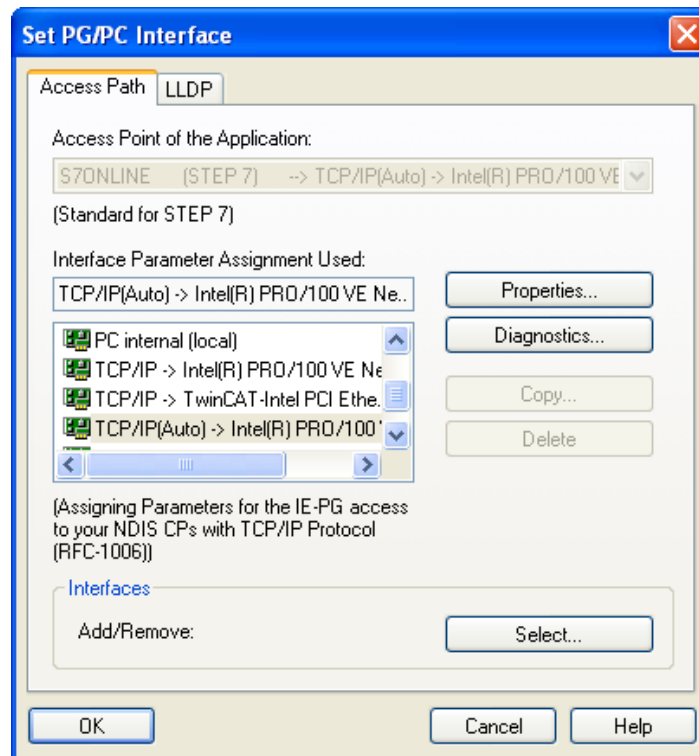
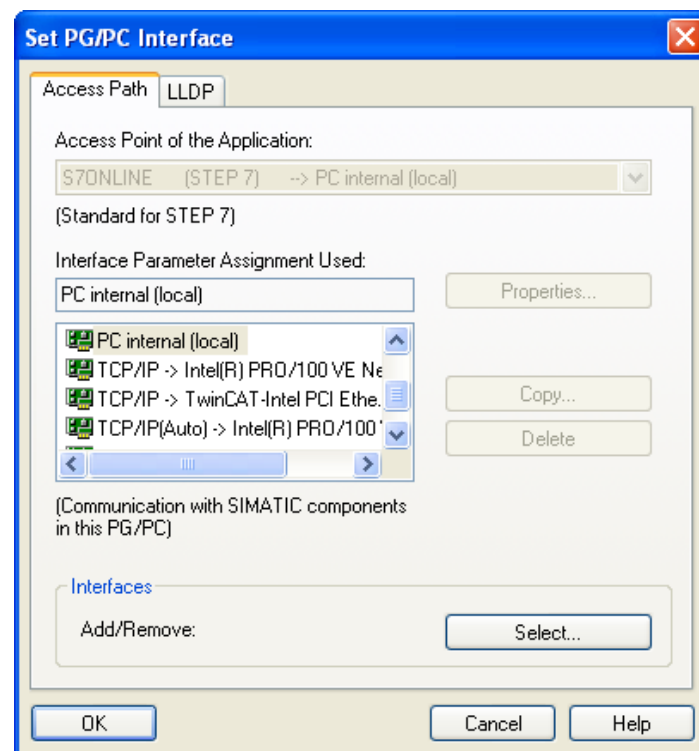

Figure 48
Figure 49
- Under some circumstances the connectivity to the encoder is not established on the PC/PG interface of the specific network interface card installed, see figure 48, but simply on the generic interface "PC internal (local)" according to figure 49. If both interfaces do not work then please check hardware and driver installation.